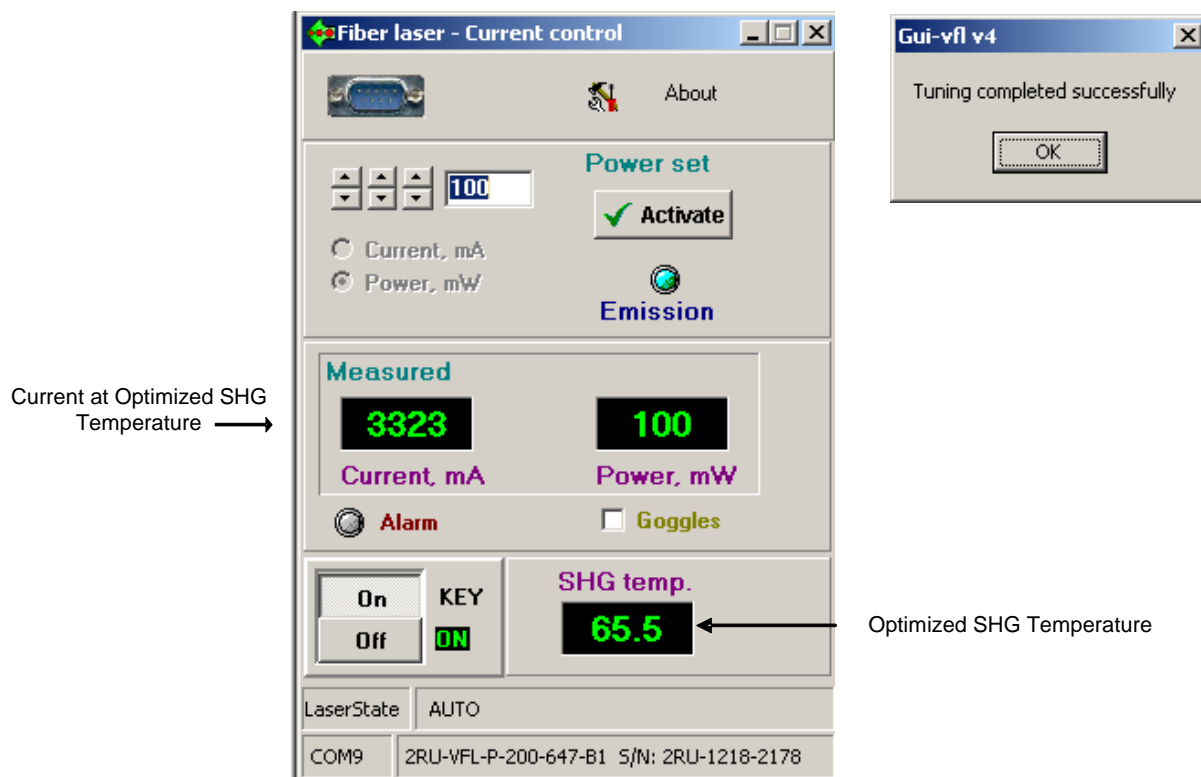

Fig. 6 Completion of SHG Maintenance in Power Mode
- ♦ At the end of process (Fig 6), a pop-up window indicates the tuning is completed successfully. The new optimum SHG monitored temperature is displayed and the minimized current as well